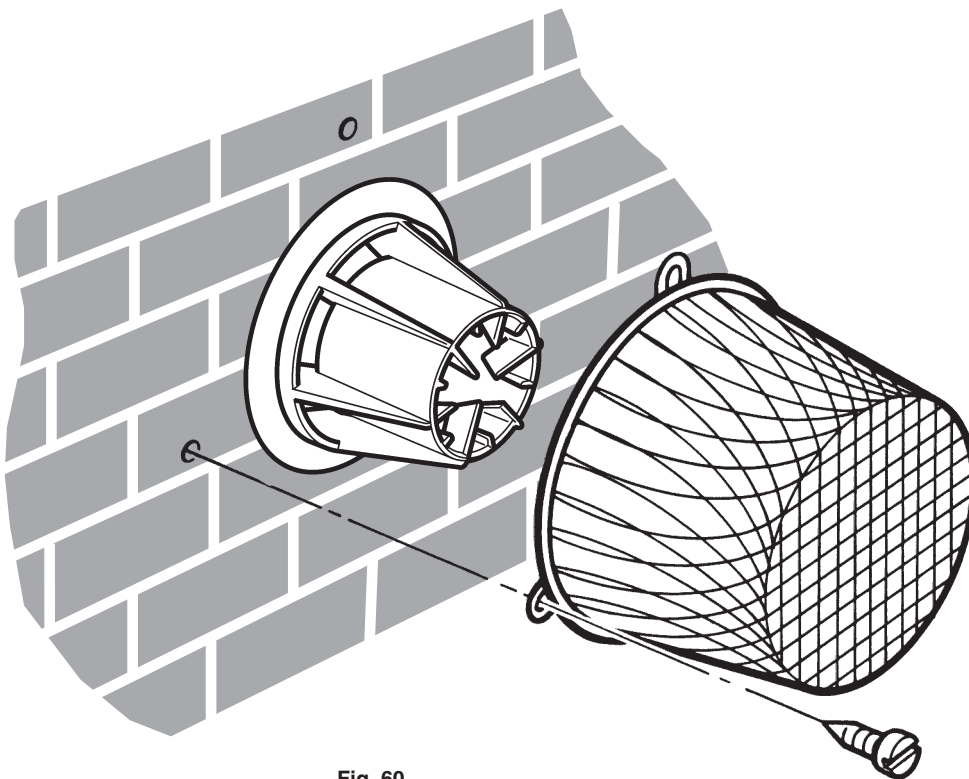

Fig. 60
6.13 Fitting a Terminal Guard (Fig. 60)